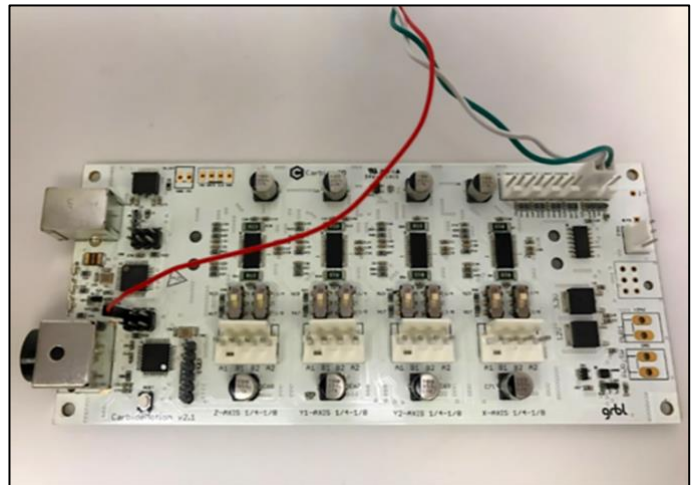

Figure 11
3. Once both wires are plugged in, your board should look like **Figure 11**.